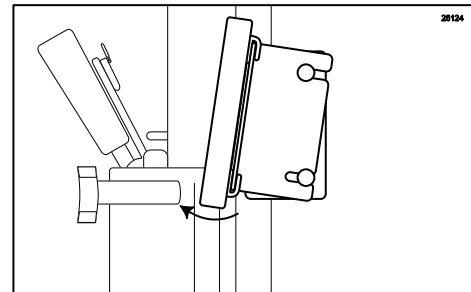

Figure 116
- Adjust the angle of the Keypad by loosening the bottom hand knob of the bracket and swinging the keypad upward. The Keypad hinges on the upper hand knob. Secure the Bracket by tightening the hand knobs. (See Figure 116.)